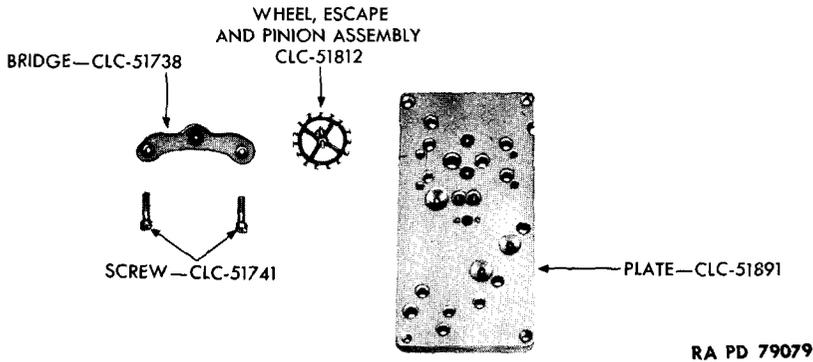

Figure 217 — Message Center Clock M1 — Escape Wheel Bridge and Escapement Removed
i. Replace Escape Wheel and Pinion Assembly. Place escape wheel and pinion in position on escape plate (fig. 217).
l. **Replace Escape Wheel Bridge Assembly** (fig. 217). Replace the escape wheel bridge, aligning the pivot of the escape wheel to its jewel, and secure with bridge screws. This completes the assembly of the train. At this point check freedom of the intermediate wheel to the escape wheel.